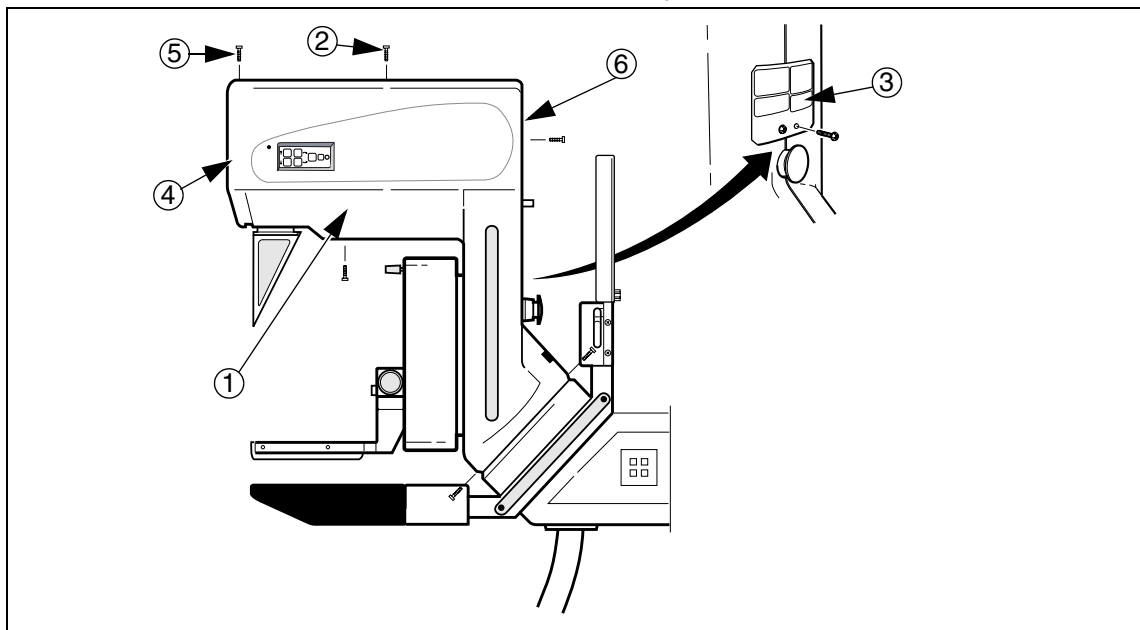

Fig. 10 Covers and sign
1. Mount the side covers (1/Fig. 10) with six screws (2/Fig. 10) on each side. Start with the right side.
Do not forget to fit the sign (3/Fig. 10) when mounting the side covers. Use the two longer screws.
Make sure that the longer screws are not used at the back of the covers at the upper location (6/Fig. 10) since this may damage the board underneath the cover.
2. Carefully fit the front cover (4/Fig. 10) so that both openings engage with the lugs of the side covers.
4. Fasten the front cover to the side covers with two short screws (5/Fig. 10).